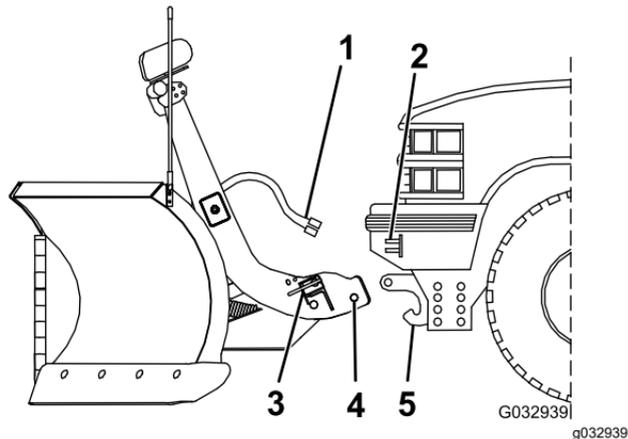

Figure 23
3. Line up the vehicle with the snowplow and slowly drive forward until the lower pin contacts the push-beam pin receiver (Figure 23).
5. Remove the electrical-plug dust covers and connect the plow wire harness to the vehicle wire harness (Figure 23).